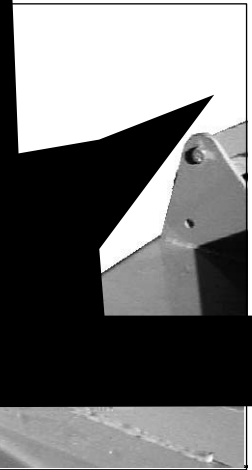

Figure 35. Rear Caster Arm Installed
assembly (3) from the front as shown in Figure 35 and tighten nuts (56).